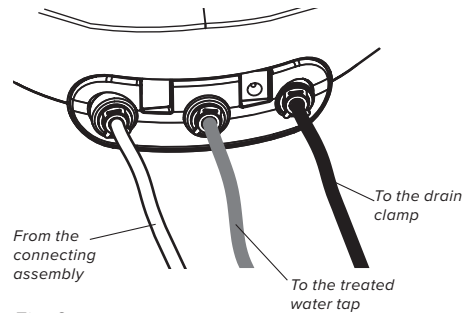

Fig. 9
- Connect the inlet tubes according to the diagram shown in Fig. 9.